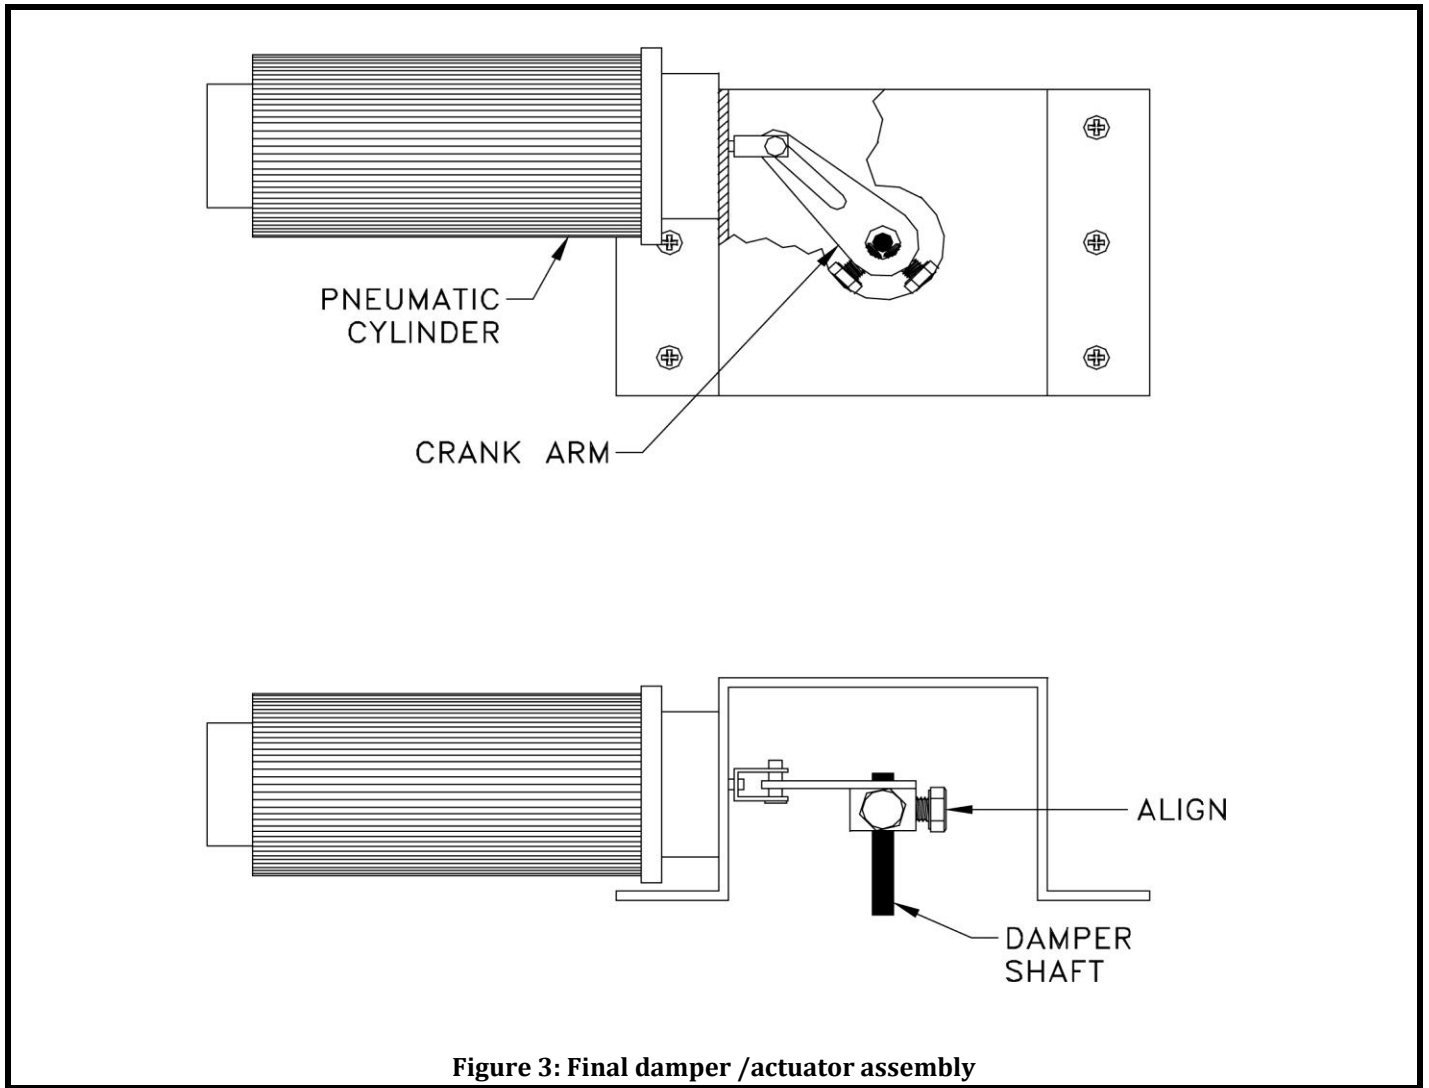

Figure 3: Final damper /actuator assembly
- Slide the pneumatic actuator arm onto the damper shaft (bottom of Figure 3).
- Align the crank arm with the actuator shaft and tighten the 2 crank arm screws (Figure 3).